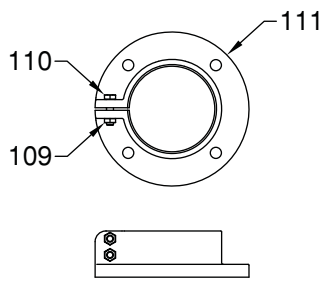

Figure 5 – “Q” Units
2.7 “Q” Units – Open Tank Mounting Module – The mixer housing module mounts in the bore of the Pedestal (111) and is secured by tightening the two hex head cap screws (110) and hex nuts (109). Refer to Figure 5.